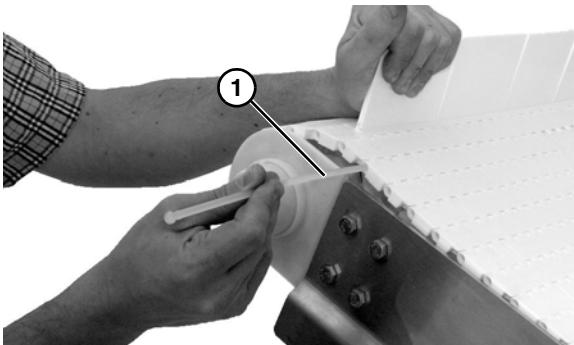

Figure 11
5. Insert the belt rod (**Figure 11, item 1**).